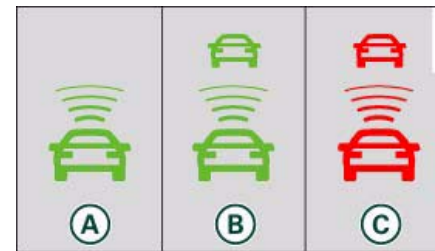

Fig. 144 Instrument cluster: Indicator lamp ►
- **(A) No vehicle in front:** The green indicator lamp (A) ⇒ page 134, fig. 144 shows that the adaptive cruise control system is in cruise mode and that there is no vehicle in front. It maintains the stored target speed.
- **(B) Vehicle in front:** The green indicator lamp (B) shows that the system has detected a vehicle in front. The speed is adapted to the vehicle in front. The adaptive cruise control system accelerates and brakes the vehicle automatically.
- **(C) Driver intervention prompt:** When the red indicator lamp flashes (C), this is a **warning for the driver to intervene**. The driver has to brake the vehicle with the foot brake. This warning lamp will always appear when the adaptive cruise control system alone is not able to brake the vehicle sufficiently to maintain a safe distance to a vehicle in front. An audible alarm (warning tone) will also sound when the lamp starts to flash. For further information on the driver intervention prompt ⇒ page 138.